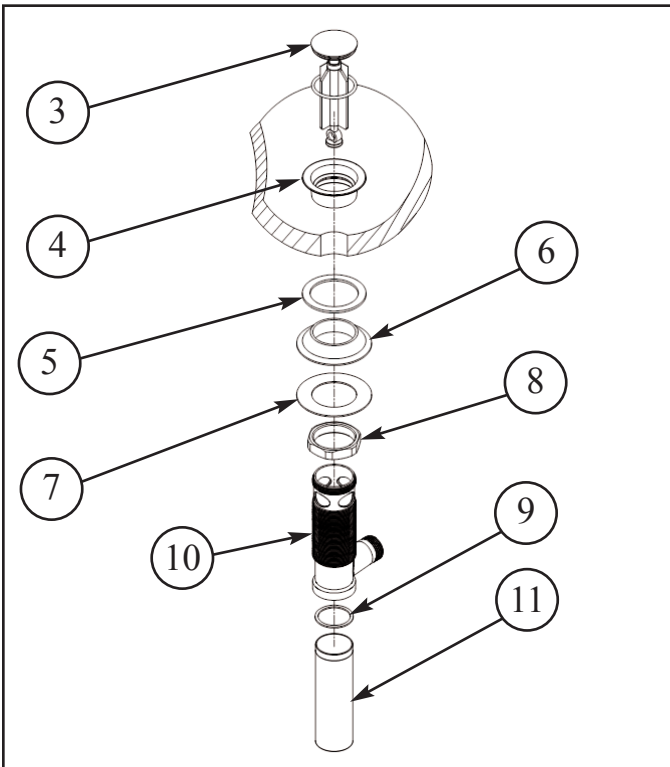
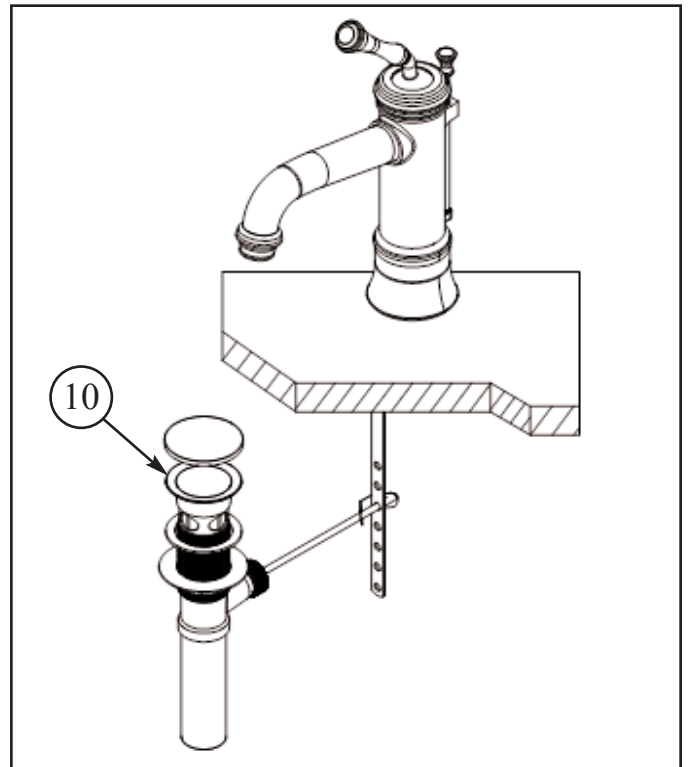

Figure 3
Figure 4
3. Drain assembly not included with 9208. Remove drain PLUG (3) from FLANGE (4). Place FLANGE (4) and white WASHER (5) through sink drain opening. (Clear silicone may be used in place of white washer.) From bottom side of sink, place cone shaped rubber WASHER (6) onto FLANGE (4) and slide up against sink bottom. Note: Cone portion of WASHER (6) to face upward. Next slide on clear flat WASHER (7) and secure with flange NUT (8). Place clear WASHER (9) into drain BODY (10) & tighten to FLANGE (4). Apply thread sealant to TAILPIECE (11) and attach to drain BODY (10). Attach TAILPIECE (11) to p-trap drain (not included). See Figure 3 and See Figure 4.